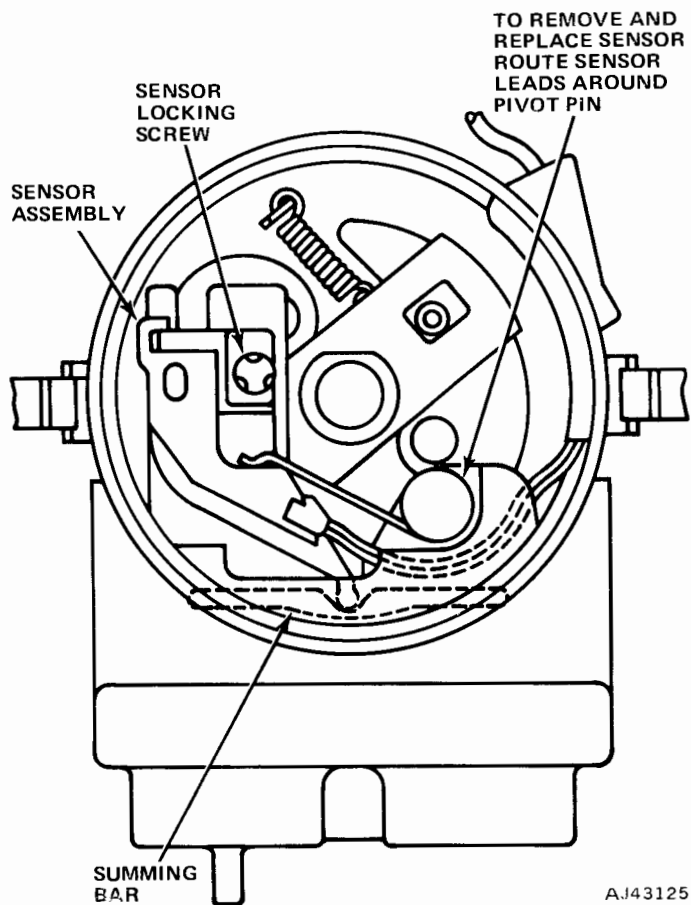
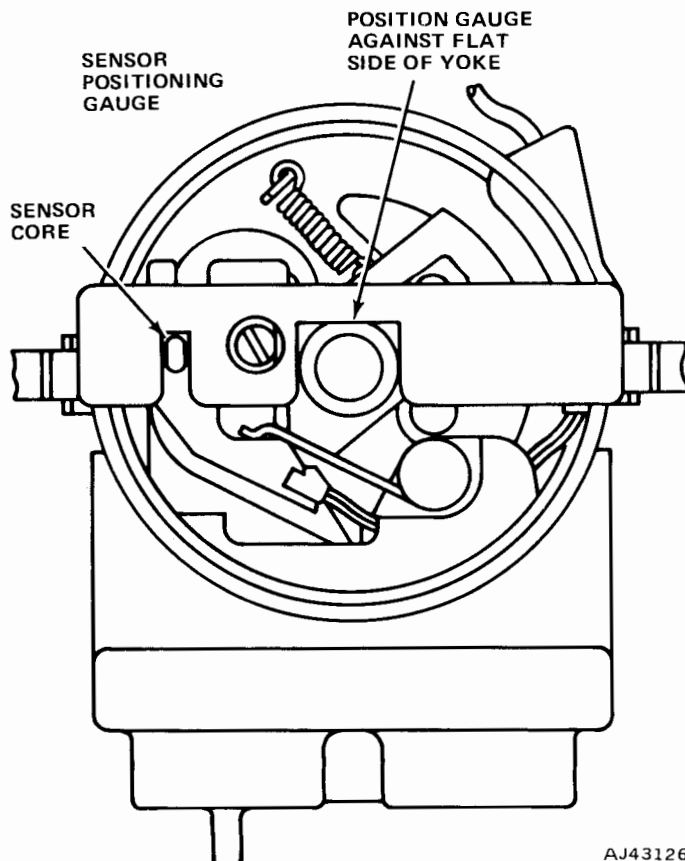

Fig. 3-59 Removal and Installation of Sensor Assembly
Fig. 3-60 Positioning Sensor
Lift the sensor lead grommet out of the distributor bowl. Pull sensor leads out of the slot around sensor spring pivot pin (fig. 3-59). Lift and release sensor spring, making sure it clears the leads, then slide the sensor off bracket.
(7) With the vacuum chamber installed, assemble sensor, sensor guide, flat washer, and retaining screw. Install retaining screw only far enough to hold assembly together and be sure it does not project beyond the bottom of sensor.
(8) If the vacuum chamber has been replaced and the original sensor is being used, substitute new screw for original special head screw to facilitate sensor positioning. Use existing flat washer.
(9) Install sensor assembly on vacuum chamber bracket, making certain that the tip of the sensor is located properly in summing bar (fig. 3-59).
(10) Place sensor spring in its proper position on sensor, then route sensor leads around spring pivot pin. Install sensor lead grommet in distributor bowl, then make certain the leads are positioned so they cannot be caught by the trigger wheel.
(11) Place sensor positioning gauge over yoke (be sure gauge is against flat of shaft) and move sensor sideways until the gauge can be positioned (fig. 3-60). With the gauge in place, use a small blade screwdriver to snug down retaining screw. Check sensor position by removing and installing gauge. When properly positioned, it should be possible to remove and replace gauge without any sensor side movement. Tighten the retaining screw to 5 to 10 oz.-in., then recheck the sensor position as before.